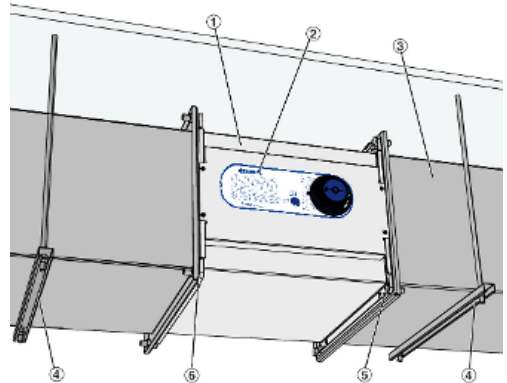

Fig. 12: Installation example
1. ▶ Install suspension rods and bars (Fig. 12/4) at the installation location, at a distance of approx. L+100 mm.
2. ▶ Assemble the ducts (Fig. 12/3) and lead them up to the installation location of the terminal unit.
3. ▶ Insert seals (Fig. 12/6) between the flanges ↻ 'Attaching sealing tape' on page 9 (on-site).
Observe the air direction arrow (Fig. 12/2) during installation.
4. ▶ Screw the terminal unit (Fig. 12/1) together with screws, washers and nuts M10 (Fig. 12/5).
- Screw connection (Fig. 12/5) with screws and washers M8;